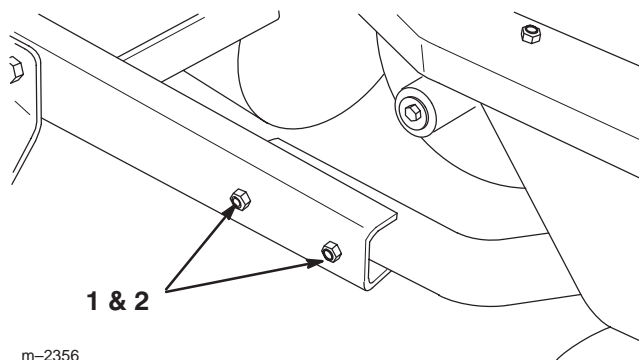

Figure 7
1. Align snowthrower frame mounting holes with traction unit lift arms. Secure each side with (2) 3/8-16 x 2-1/2" (64 mm) bolts and 3/8-16 locknuts (Fig. 7).